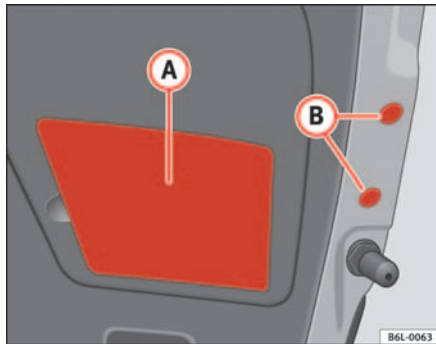

Fig. 155 Rear light on tailgate
- Fit the caps **(B)** and the plastic cover **(A)** ⇒ fig. 155.